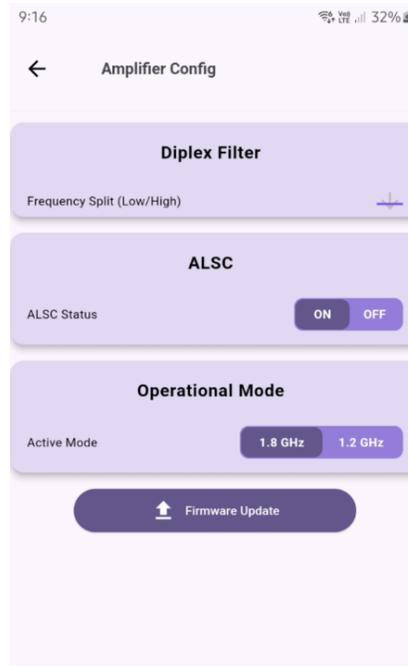

Figure A- 8: Diplex Filter Settings
4. Diplex Filter – Select the new split from the frequency split drop down menu, see Figure A-8.